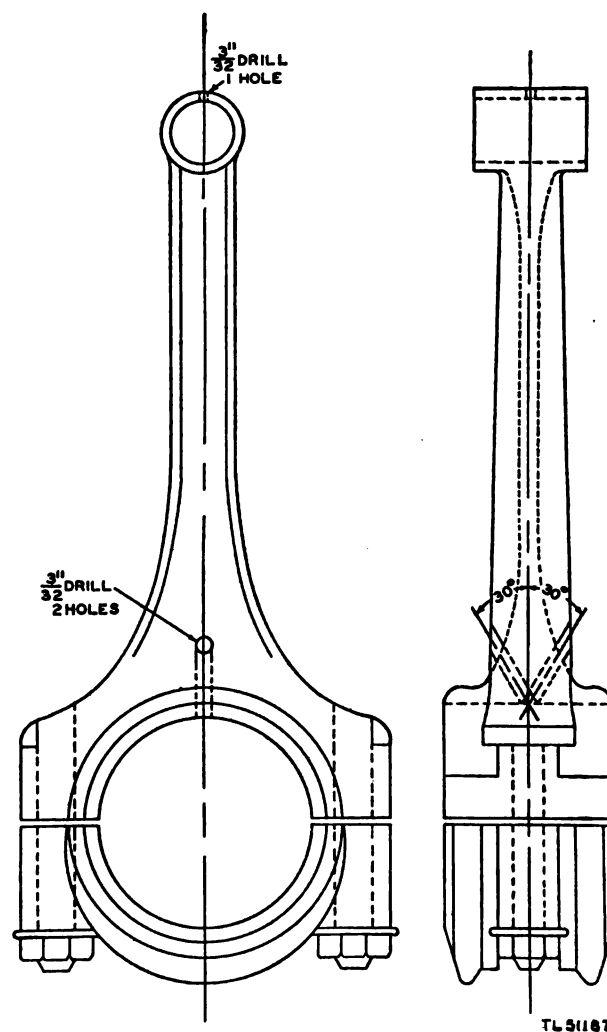

Figure 73. Briggs and Stratton connecting rod after oil holes have been drilled.
3. Drill one hole in the wrist pin bearing and two holes in the crankshaft bearing as shown in figure 73 using a 3/32-inch drill.